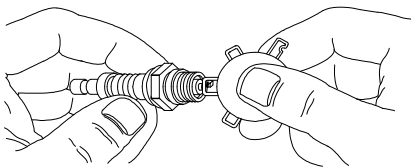

Figure 4-4. Spark Plug
4. See Figure 4-4. Inspect electrode gap with feeler gauge and reset spark plug gap to 0.028 - 0.031 in (0.7 - 0.8 mm).